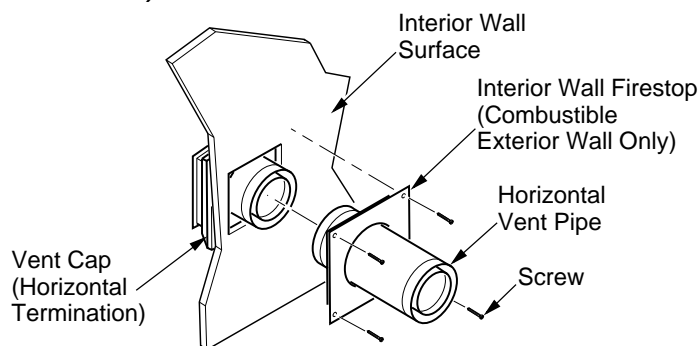

Figure 28 - Connecting Vent Cap with Horizontal Vent Pipe
5. **Combustible Exterior Wall Only:** Slide the interior wall firestop over the vent pipe before connecting the horizontal run to the vent cap (see Figure 28).
7. **Combustible Exterior Wall Only:** Slide the wall firestop against the interior wall surface and attach with screws provided (see Figure 28).